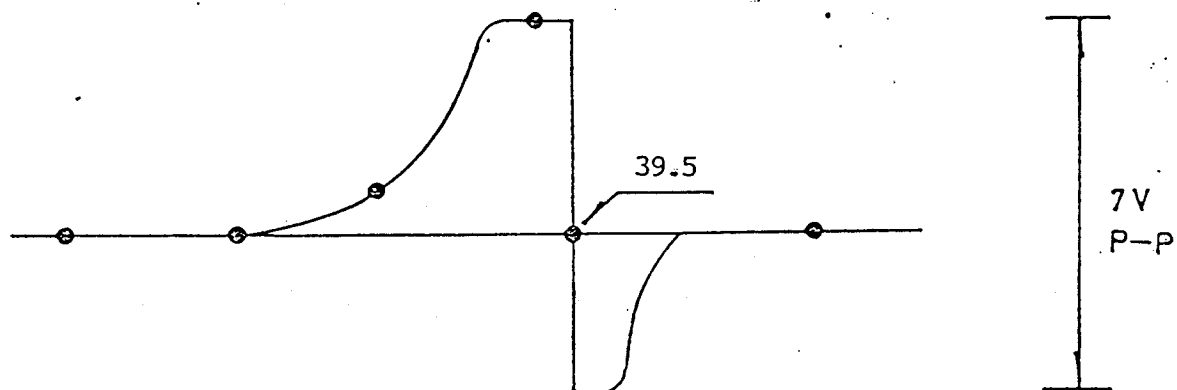

Fig.4
- (iv) Adjust T103 to obtain waveform as Fig.4.